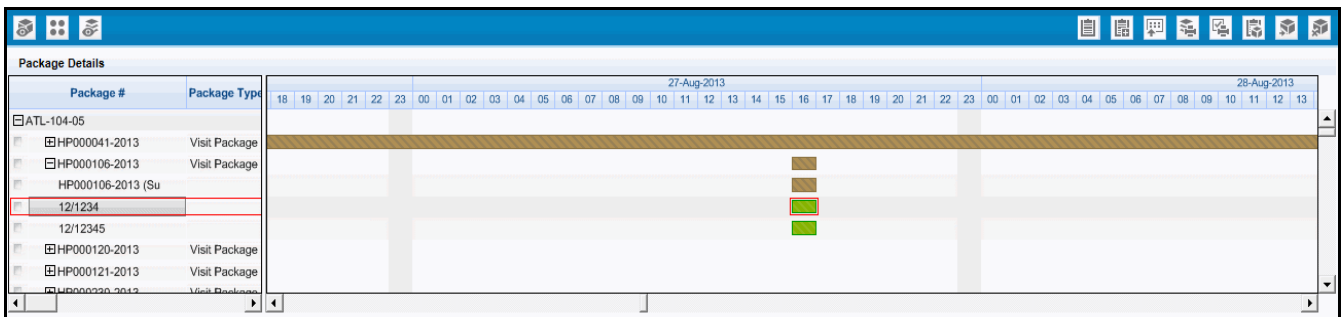

Figure 2.15 Package Details Gantt chart
2. Select the **Get** pushbutton to display packages that match the search criteria. See *Figure 2.15*.